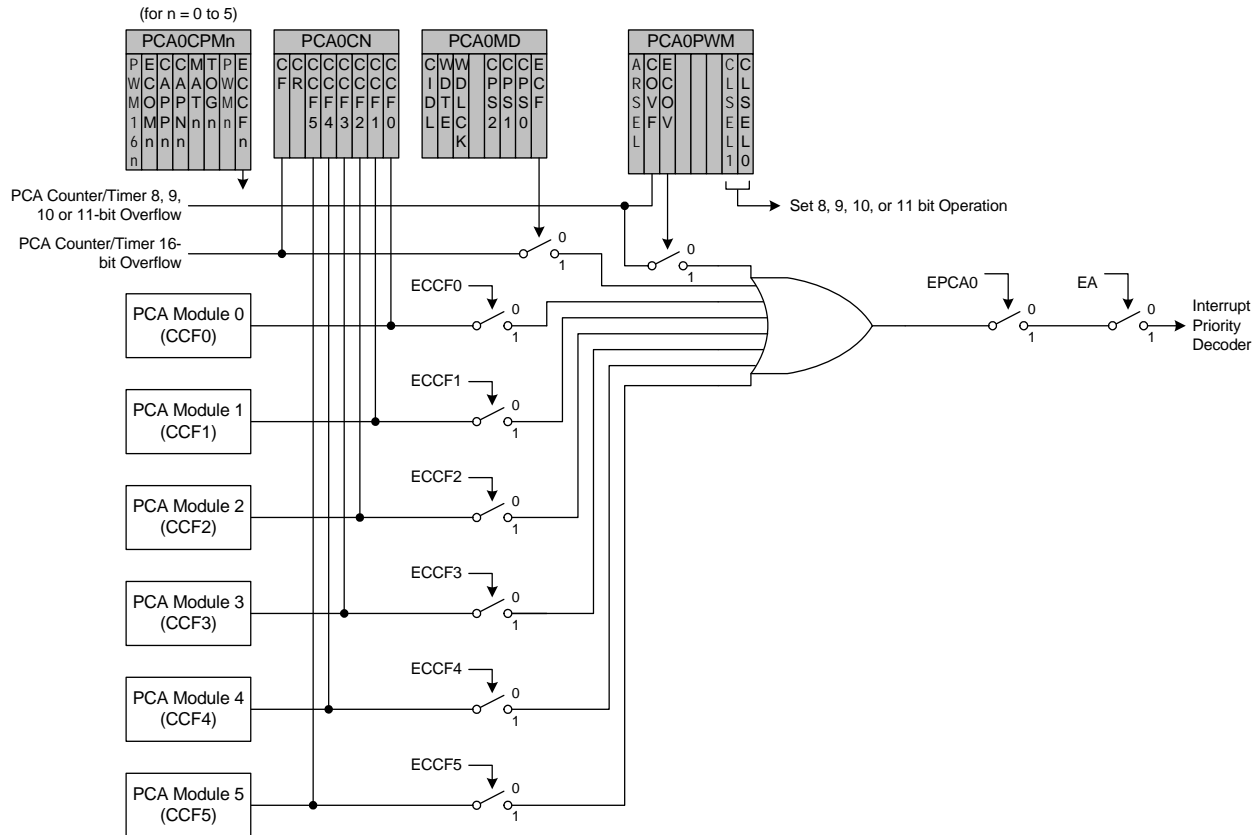

Figure 33.3. PCA Interrupt Block Diagram
Figure 33.3 shows a diagram of the PCA interrupt tree. There are eight independent event flags that can be used to generate a PCA0 interrupt. They are: the main PCA counter overflow flag (CF), which is set upon a 16-bit overflow of the PCA0 counter, an intermediate overflow flag (COVF), which can be set on an overflow from the 8th, 9th, 10th, or 11th bit of the PCA0 counter, and the individual flags for each PCA channel (CCF0, CCF1, CCF2, CCF3, CCF4, and CCF5), which are set according to the operation mode of that module. These event flags are always set when the trigger condition occurs. Each of these flags can be individually selected to generate a PCA0 interrupt, using the corresponding interrupt enable flag (ECF for CF, ECOV for COVF, and ECCFn for each CCFn). PCA0 interrupts must be globally enabled before any individual interrupt sources are recognized by the processor. PCA0 interrupts are globally enabled by setting the EA bit and the EPCA0 bit to logic 1.